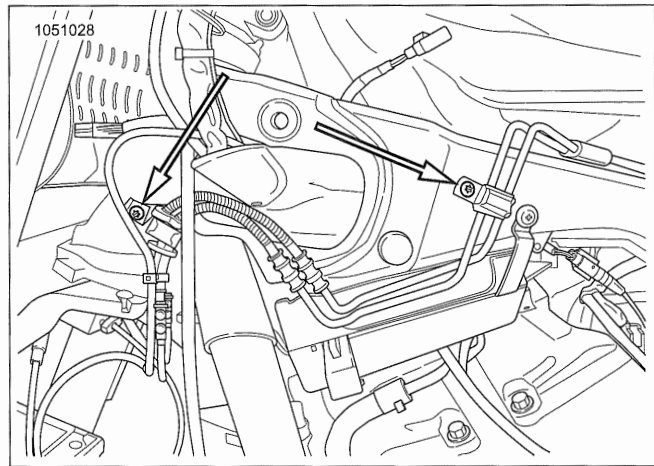

Figure 7-157. Brake Line Clamps
2. See Figure 7-157. Remove brake line clamp screws.
6. See Figure 7-157. Install brake clamp screws. Tighten.